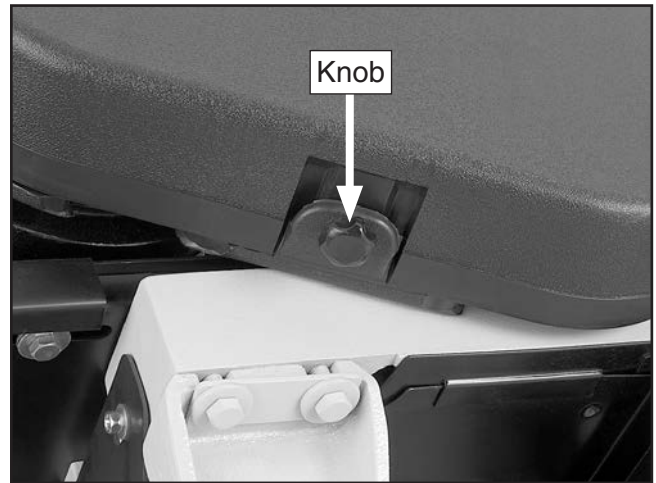

Figure 20. Secured pulley cover lid.
14. Close pulley cover lid and secure with 1/4"-20 x 5/8" knob (see **Figure 20**).